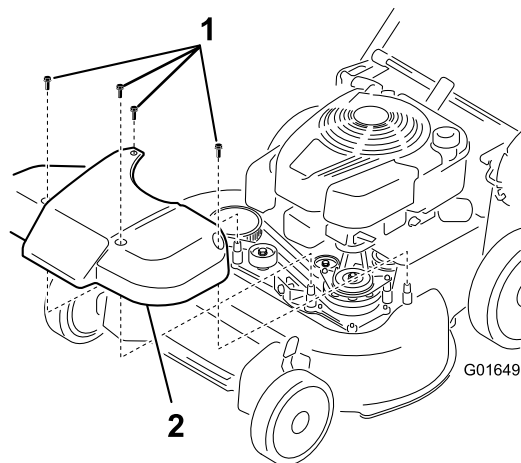

Figure 1
4. Remove the blade-drive system cover from the machine (Figure 1).